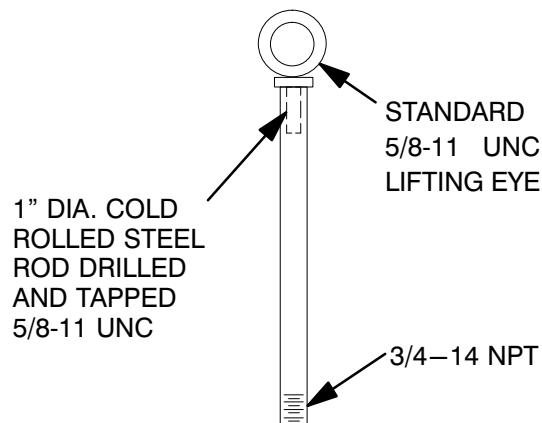

Figure 7. Casing Removal Tool
If the discharge port is in a horizontal position, fabricate a lifting device as shown in Figure 7 and screw it into the hole for the pipe plug (9). **Make certain** that the threaded end of the tool fully engages the threads in the casing. Use a suitable sling and hoist to remove the casing.